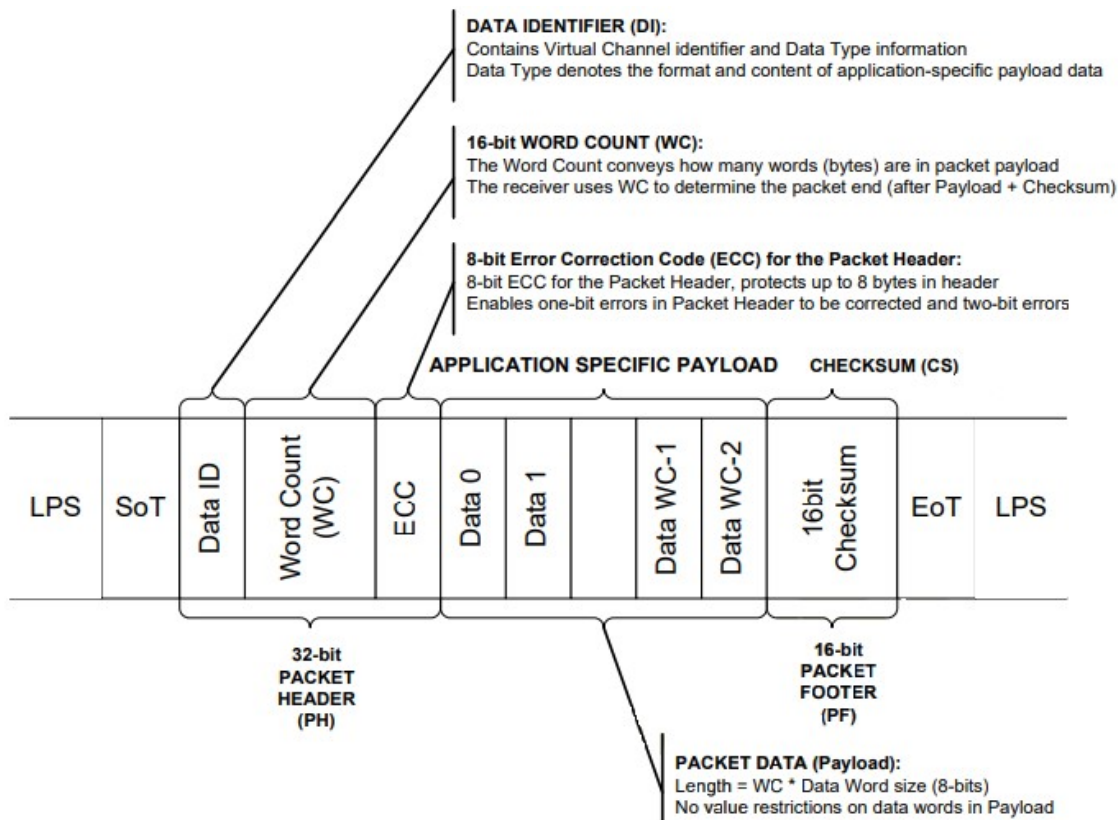

Figure 6.22: Long Packet Structure
Figure 6.22 shows the structure of the Long packet. A Long packet shall consist of three elements: a 32-bit Packet Header (PH), an application-specific Data Payload with a variable